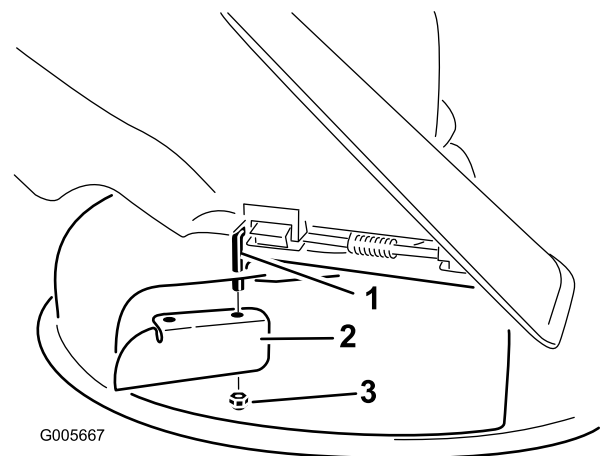

Figure 24
- Install the cutoff baffle to the exposed pivot rod (Figure 24).
- Remove the cutoff baffle from the mower deck (Figure 24).